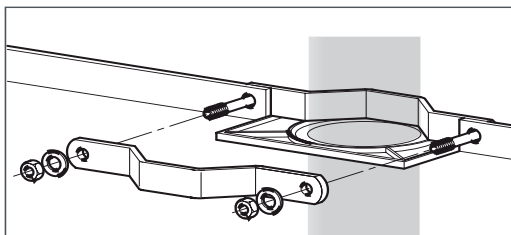

Fig. 6.9
- Fasten high-voltage cable to the base plates using clamping assemblies (Fig. 6.9 and 6.10).
- Screw-fasten the earthing screens (2) of the cables to the earthing bar (3) of the panel.